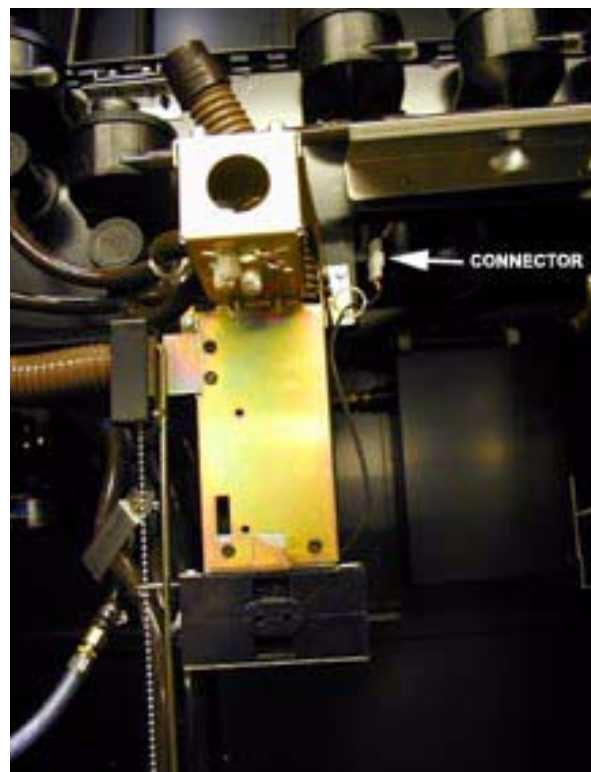

Figure 8
5. Observe the location of the 4-pin connector (see figure 8):